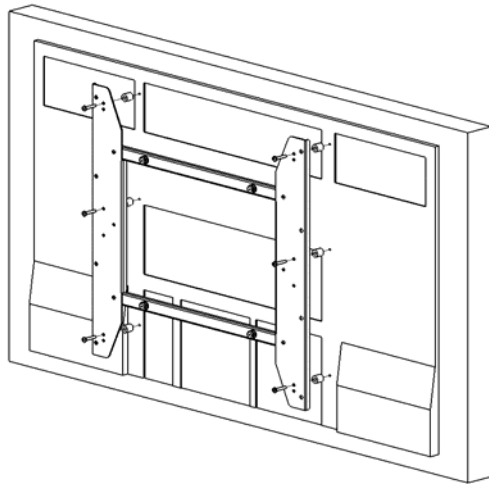
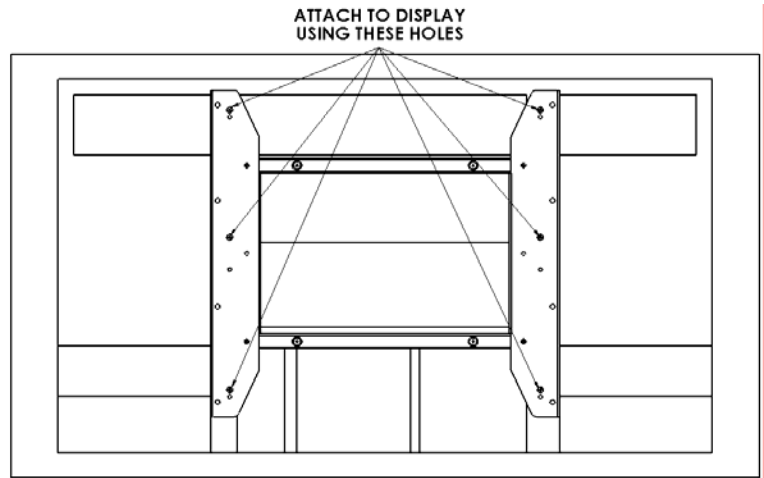

Figure 6
Figure 7
3. Place nylon spacers over the mounting holes on back of screen. Attach mounting brackets to display using the M6 screws (See Figure 6 & Figure 7).